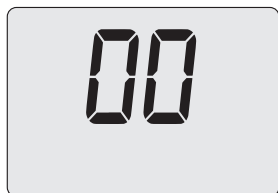

Fig. 10.22
- Press the 16 key to show the value of parameter P06 on the LCD display (Fig. 10.22).